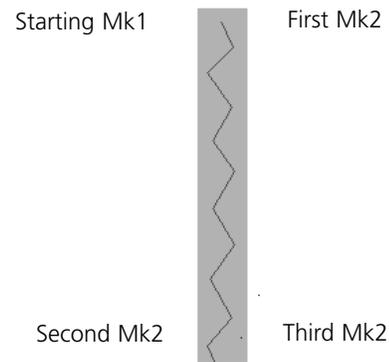

Figure 5-18
- Start with a Mk 1 to identify the beginning of one side of the column, shown as the starting Mk1 in figure 5-18.
- Enter a Mk 2 at the beginning of the other side of the column, shown as the first Mk 2 in figure 5-18.
- Enter a Mk 2 at the end of the other (or second) side of the column (see third Mk in figure 5-18). This Mk 2 ends the column stitching sequence.